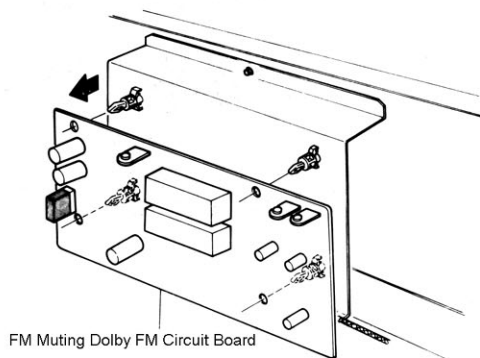

Fig. 5
- 1) Pull out the circuit board in the direction indicated by the arrow. (Refer to Fig. 5)